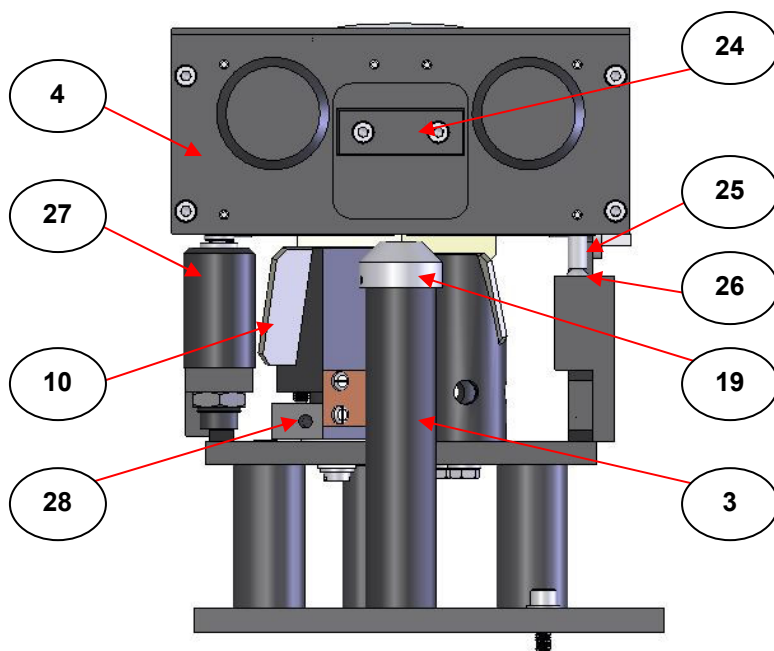

Fig 9. Front View of R to L Selector™ Accessory in Operating Position (Ellipsoid Arm Assembly Down/Closed)
Ground spectroscopic grade KBr or KCl powder is recommended for use as a reference material for alignment and background spectra. The powder can be placed into the 11mm diameter sample cup (19) that is mounted on the top of the sample holder post (3). (See Fig 9.)
Lower the ellipsoid mirrors arm assembly (4) back to its down/closed **Operating Position** so that the height adjustment micrometer screw (25) rests on the steel ball stop (26). (See Fig 9.) A shock absorber (27) is fitted to ensure that the ellipsoid mirrors arm assembly (4) comes to rest gently on the steel ball (26) without damaging the micrometer (25).
Firstly, the final output mirror (10) should be adjusted to try and improve the throughput signal. The “Tommy bar” supplied enables rotational adjustment of the final output mirror (10). Insert the “Tommy bar” from the front of the Selector™ accessory into the hole in the base (28) of the final output mirror mount (10). (See Fig 9.) Carefully move the “Tommy bar” horizontally in a left or right direction to improve the throughput energy signal value. If the movement in one direction
There are two 11mm diameter x 2.5mm deep standard sample cups (**19**) provided. One can be used to fill with a reference sample powder for frequent background reference spectral collections (if needed) and the other can be used for solid sample materials (powders etc) to analyse against the background reference material. Interchange between the two sample cups is quick and easy. The underside of the cup (**19**) simply fits over the top of the baseplate (**2**) sampling post (**3**). (See Figs 9, 10.) and can be affixed securely to the sampling post (**3**) if required by tightening of the small locking grub screw at the cups base.